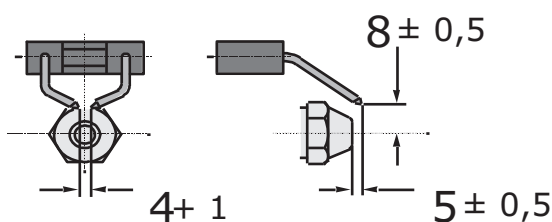

Fig. 509
- Check distance of the electrode tip to the atomizer nozzle (see Fig. 509).
- Check the distance between the electrodes (see Fig. 509).